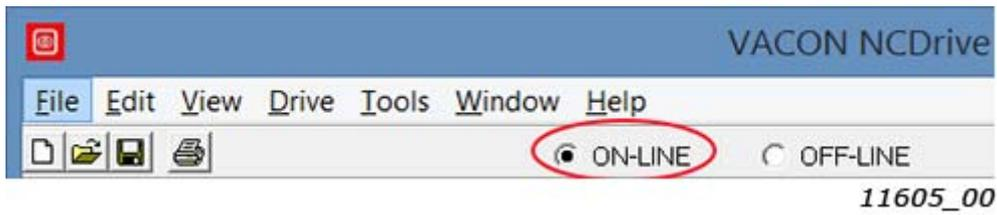

Figure 27. NC Drive: Going online
**Step 4.** Press the "ON-LINE" button. The NCDrive will connect to the drive and start loading parameter information. This will take a few minutes. See Figure 27 and Figure 28.